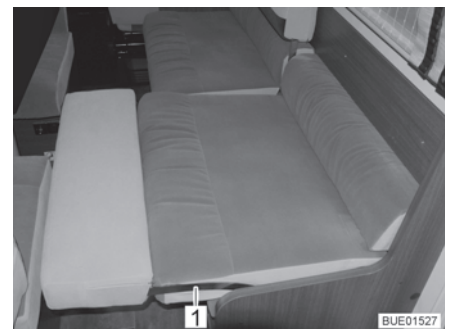

Fig. 98 Adjusting the neck cushion
- Push the seat cushion slightly inwards in the area around the metal clip (Fig. 98,1).